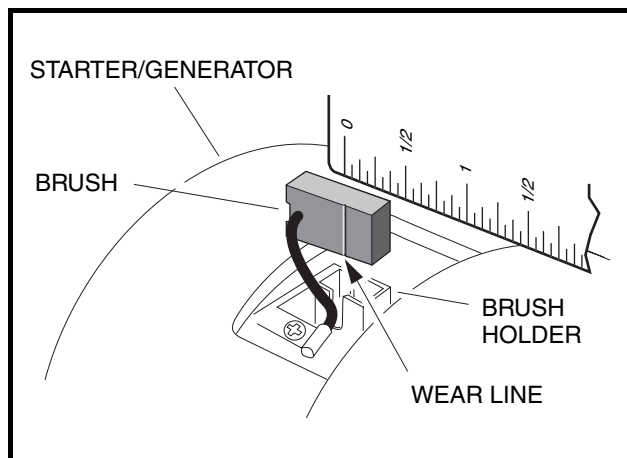

Figure 12-4 Inspect Brushes
2. Check the wear line on the side of the brush. If the end of the brush is within 1/16 inch (1.6 mm) of the wear line, replace all four brushes (**Figure 12-4, Page 12-3**).